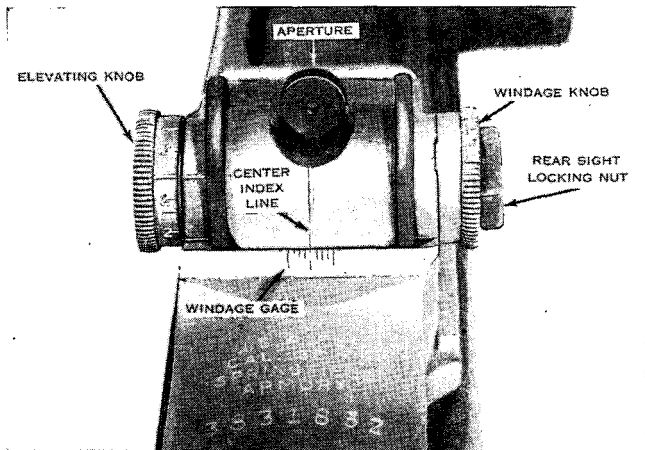

Figure 48. The rear sight.
a. The rear sight of your rifle (fig. 48) is adjustable, enabling you to engage targets accurately up to the maximum effective range. It has an elevation knob and a windage knob. The elevation knob has a number and a mark for 200, 400, 600, 800, 1,000, 1,200 yards of range and lines between these graduations for 100, 300, 500, 700, 900 and